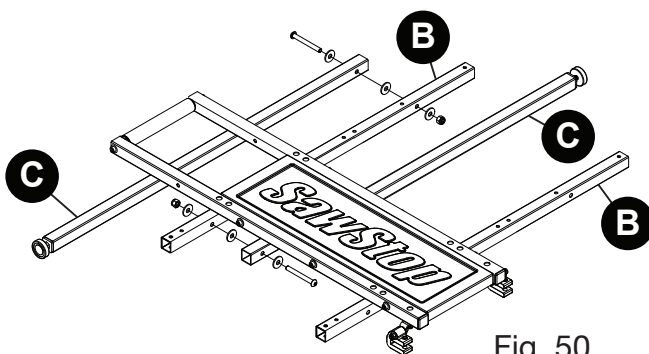

Fig. 50
- 15** Place one support leg (C) between the two table support tubes (B), with the open end of the support leg on the left and the leveling foot extending toward the right (from the perspective of a user of the table saw).
Align the mounting hole in the top of the support leg (C) with the support leg mounting hole in the table support tube (B) further from the table saw. Insert an M8 x 70 button head socket screw through an M8 x 20 washer, then through the exposed mounting holes in the table support tube, another M8 x 20 washer, the exposed mounting holes in the support leg, another M8 x 20 washer, and an M8 lock nut (see Fig. 50). Use a 5mm hex I-wrench on the socket screw and a 13mm wrench on the nut to tighten the lock nut until the support leg can pivot, but still moves with some resistance.